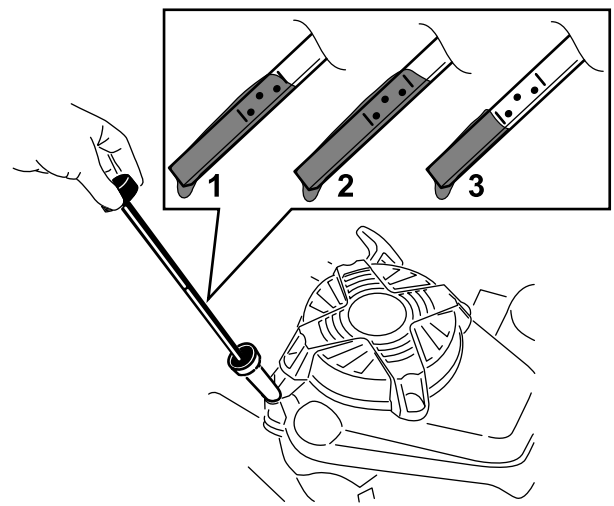

Figure 6
- Read the oil level on the dipstick (Figure 6).
- Remove the dipstick by rotating the cap counterclockwise and pulling it out (Figure 6).